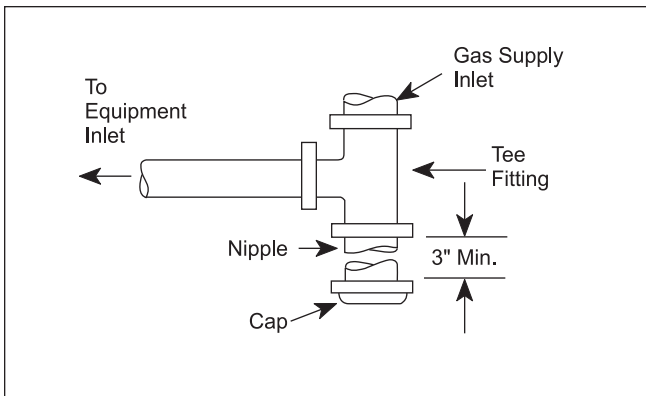

Figure 8. T-Fitting Sediment Trap Installation.
3. A trap (drip leg) must be provided ahead of the gas controls (see Figure 8). A manual gas shutoff valve must also be provided for service convenience and safety. Check the local codes.